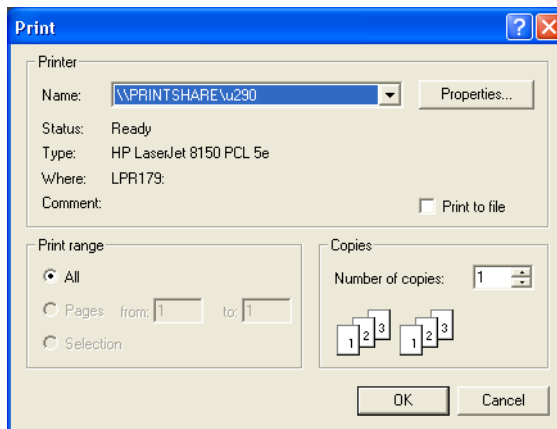

Figure 7-8 Print Dialog Box
- Click  (Print) to print the report from Preview. The Print dialog box appears (Figure 7-8).